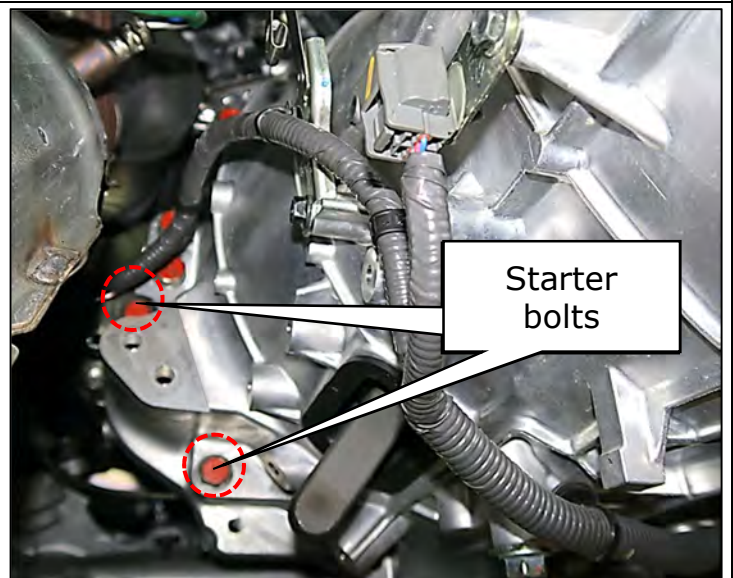

Figure 50
- Remove the (2) starter bolts. (Figure 50)